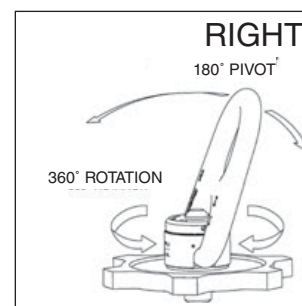

Figure 4
- Always ensure free movement of bail. The bail should pivot 180 degrees and swivel 360 degrees (Figure 4).